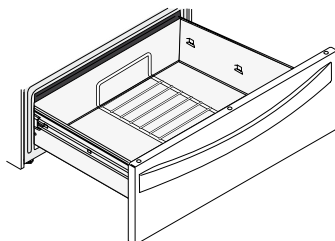

Fig. 2
- In the downward position (See Fig. 2) to allow for light weight food items and empty cookware (for example, rolls or pastries and dinner plates) on the rack.